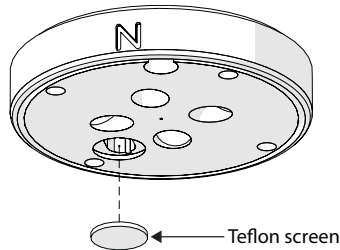

Figure 15 Teflon screen
- d. Observe the Teflon screen (Figure 15) to see if it is dirty.